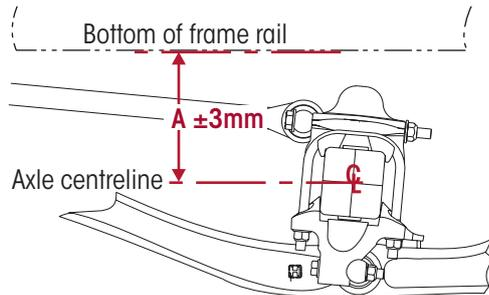

Figure 2: Ride Height Measurement (within  $\pm 3$  mm)
4. Find the vehicle manufacturer's ride height specification. This can be obtained from the vehicle manufacturer, vehicle handbook or suspension label. If these are unavailable, current vehicle ride height may be used as a reference. Ride height is measured from the underside of the chassis frame rail to the centre of the axle that has the height control valve attached. Check the height at each HCV location if equipped with dual height control valves. Refer Figure 2 and also to "Simple Ride Height Check" on page 5.